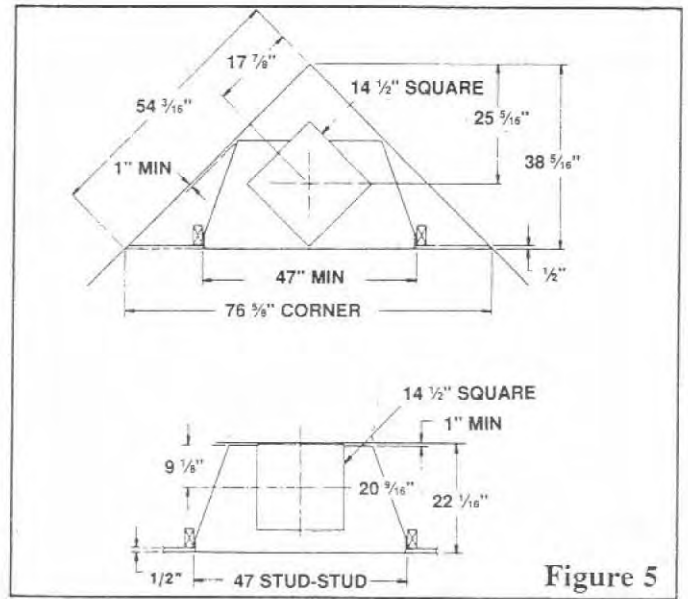

Figure 5
Corners should be considered where space is limited or at a premium. A corner-installed fireplace can make use of space that may not normally be used (see Figure 5).
STEP 3: On the ceiling directly above the center of the double-wall pipe, lay out a 14-1/2 inch square hole (use plumb bob) and cut out for chimney exit (see Figure 5, Page 3 for dimensions).